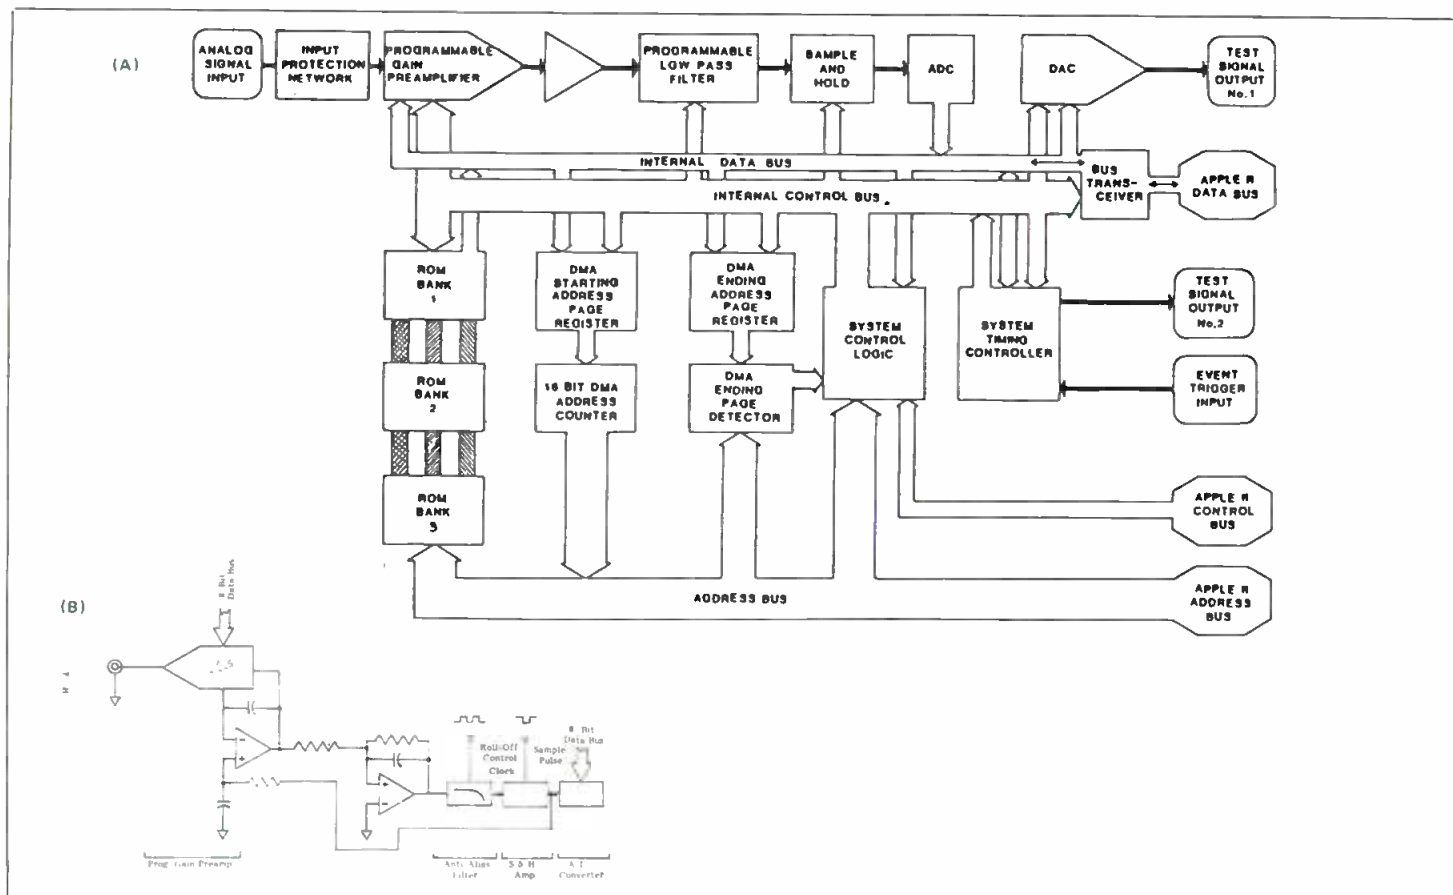

Figure 1. Block diagram of IQS Series 401 hardware (A) and Signal Acquisition Processor (B).
The basic system architecture (1) is outlined in FIGURE 1. The preamp (FIGURE 1B) is gain-controlled by a DAC used as a digitally programmed attenuator, via software operation. In the feedforward compensation mode, the preamp has an extended gain bandwidth factor of  $\pm 0.2$  db from 5 Hz to 40 kHz.
Referring to the system block diagram in FIGURE 1, the digital portion is represented by the lower 2/3 of the diagram. It provides interface, memory, timing, and logic control functions. The SYSTEM CONTROL LOGIC block determines how each module interacts with one another and links the overall system to the Apple II bus structure. In order to maximize efficiency, many of the most often used machine code subroutines (including the FFT program) are placed in read only memory (ROM). Three ROM sockets (ROM BANK 1-3) are incorporated in the hardware, each providing 4 kilobytes of program storage. A single 4-kilobyte ROM is installed in the present version, thus allowing 8 kilobytes of expansion for additional signal processing functions.